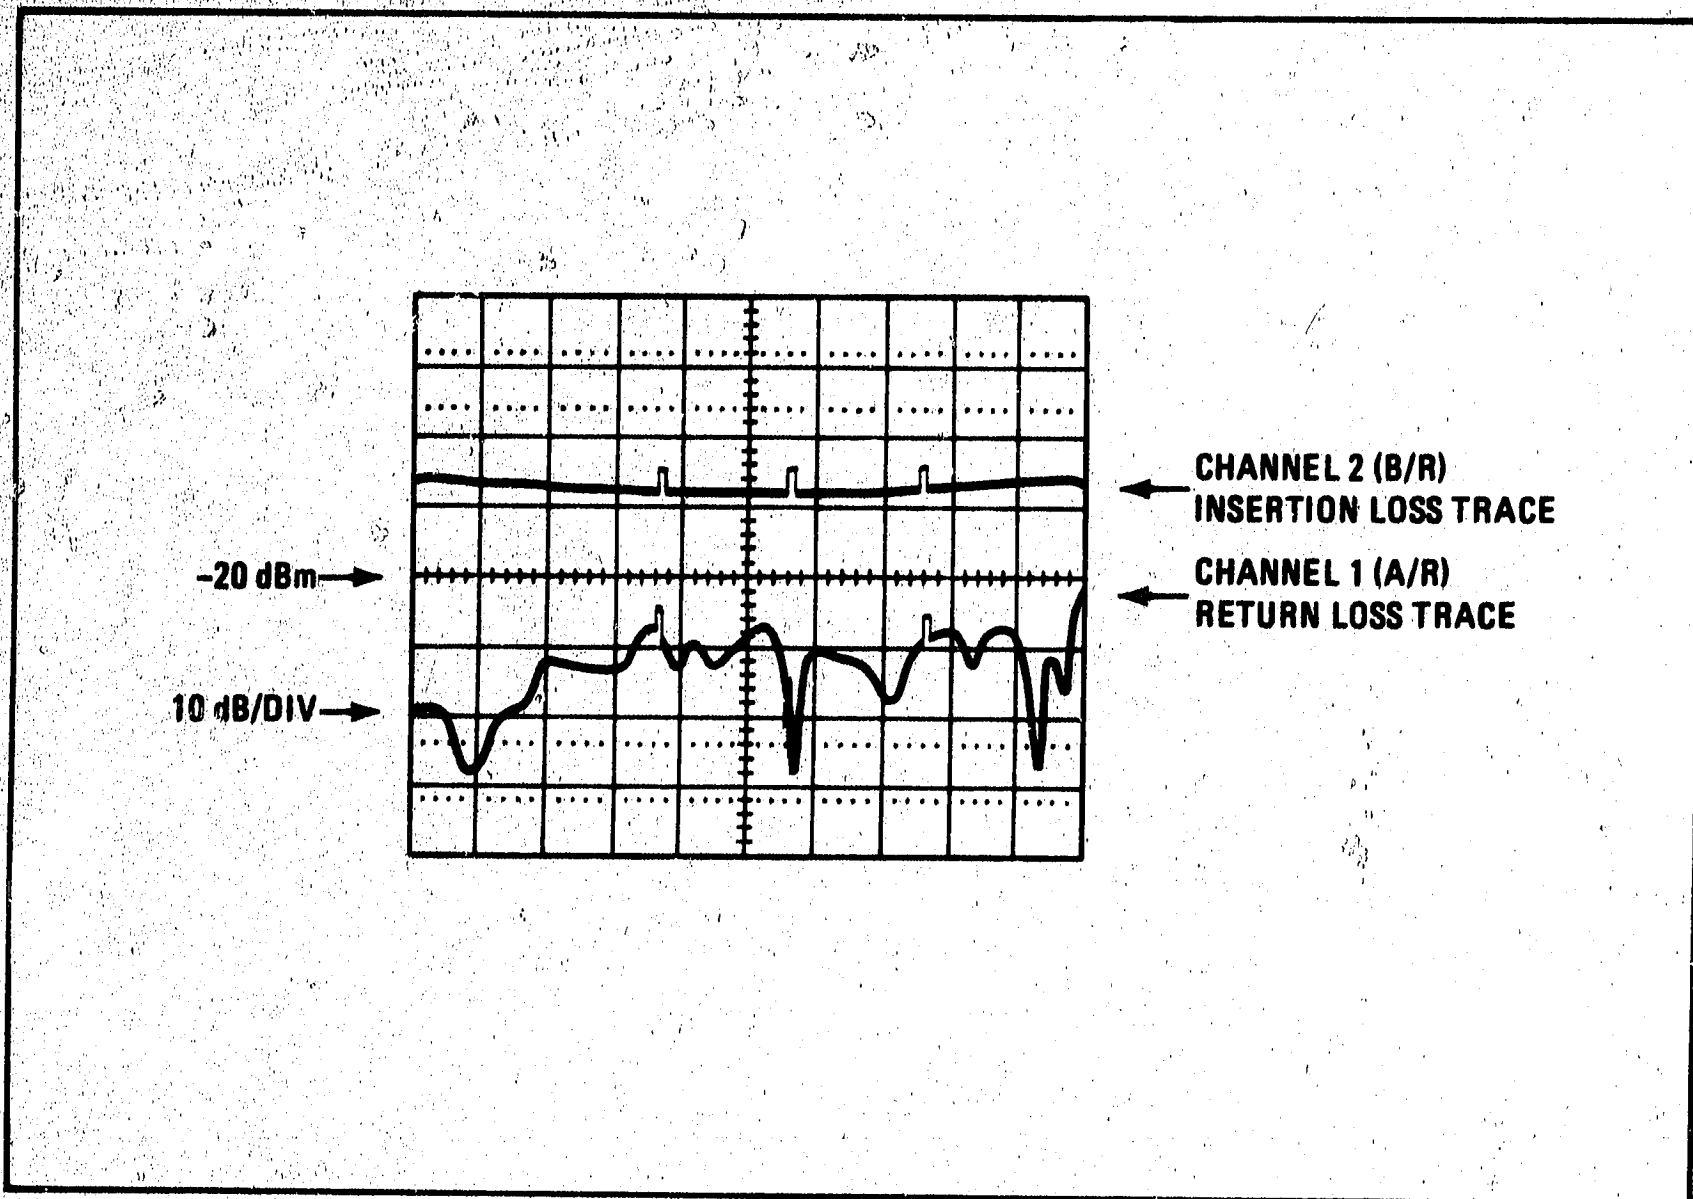

Figure 4-4. Full Band Display of 8750A Storage-Normalizer Check
25. On the 8750A Storage-Normalizer, press INPUT and check that the INPUT LED is lit. The traces should be similar to Figure 4-4. Amplitude markers will replace the intensity markers. There should now be no apparent sweep flicker.